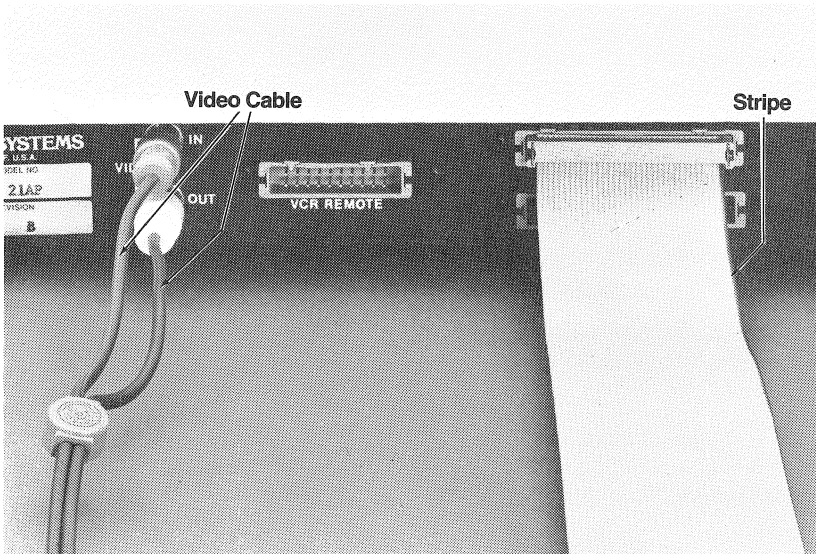

FIGURE 2.12 VIDEO CABLES CONNECTED TO DRIVE CABINET BACK PANEL
3. Attach the cable that came with the Mirror to the drive cabinet backpanel to the connector labeled PROCESSOR. Attach the other end of this cable to the drive connector on the Mirror interface board (as shown in figure 2.12).
4. Connect the cable from the interface card, Multiplexer, or Disk Server to the remaining 34 pin connector on the Mirror interface board (as shown in figure 2.12).
You received a phono plug cable with your Mirror. For self-contained Mirrors, connect this cable to the drive cabinet backpanel and to the VCR (see figure 2.12).